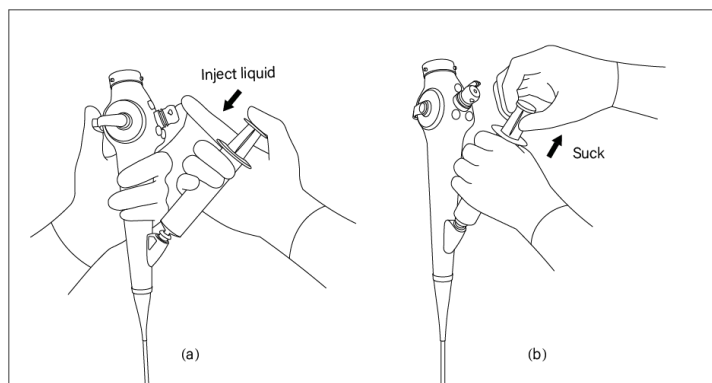

Fig. 4.6
1. Firmly insert the injector filled with lavage fluid (such as saline) into the biopsy channel opening, and press down the injector handspike to inject the lavage fluid (as shown in Fig. 4.6 (a)).
2. After installing the injector, slowly pull out the handspike to suck the lavage fluid (as shown in Fig. 4.6(b)).